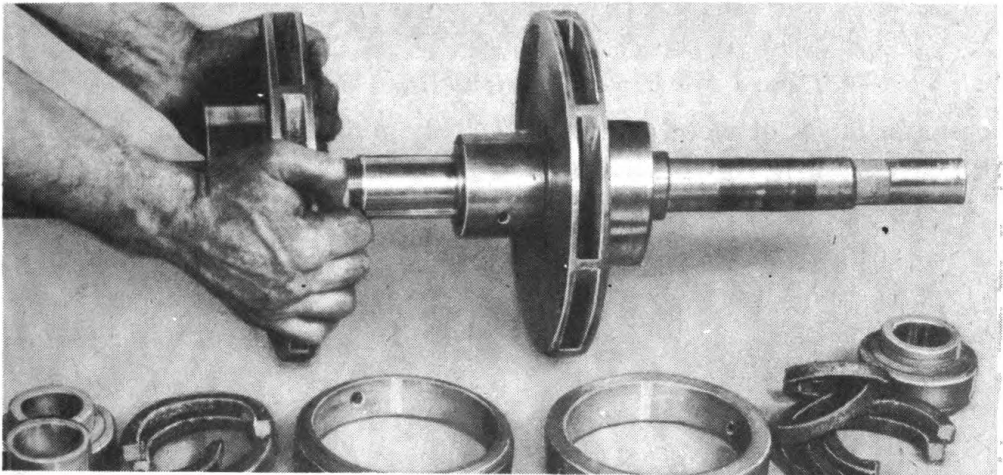

Figure 37—Removing Impeller from Coupling End of Shaft
b. Note in figure 37 that the impeller is held on the shaft by means of two keys which prevents it from rotating when in action. Before removing impellers, it is advisable to match mark impellers in the shaft ends, so that in reassembling, the impellers will go back in the same location they were furnished.